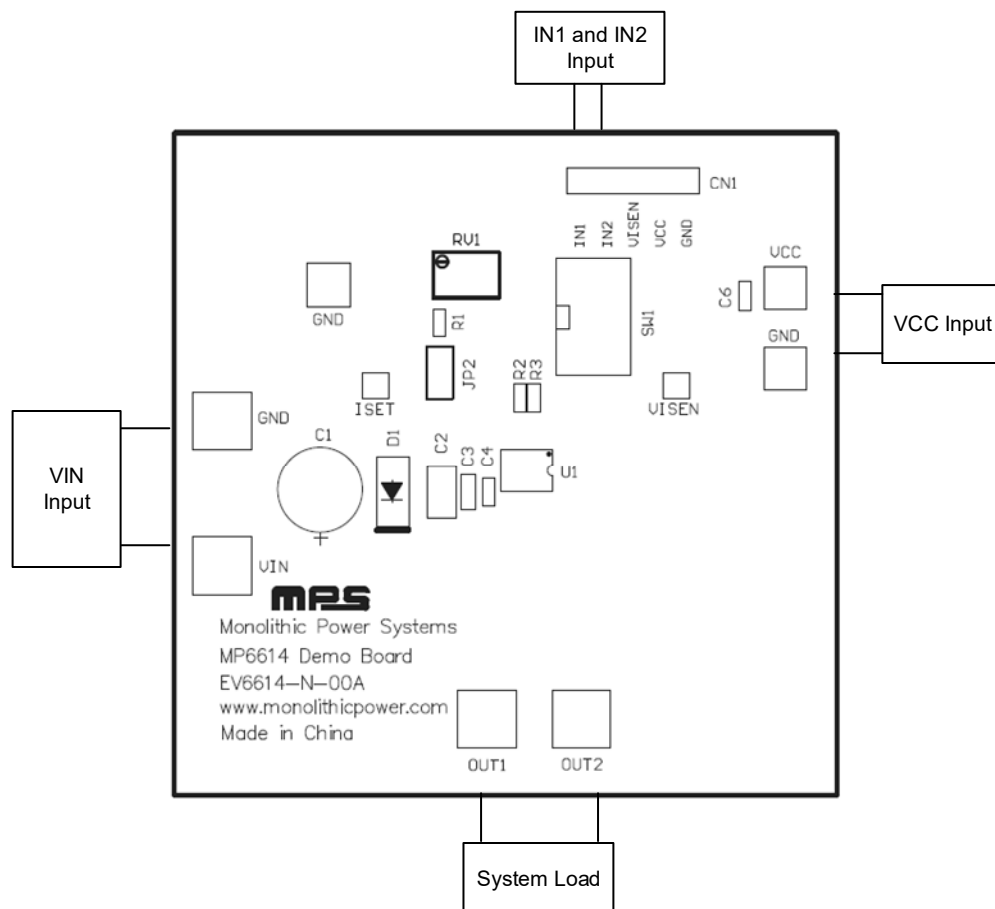

Figure 1: Measurement Equipment Set-Up
5. Figure 1 shows the measurement equipment set-up.